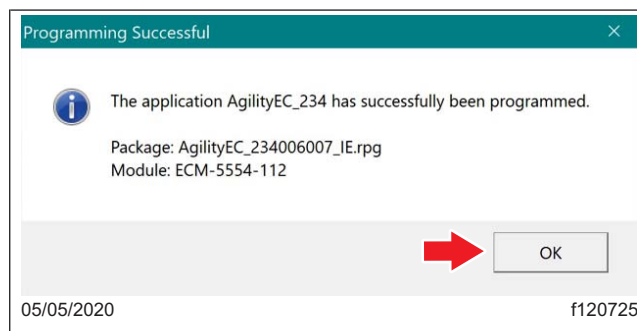

Fig. 30, Programming Successful Window
11. The 'Programming Successful' window will appear. Select 'OK.' See Fig. 30.